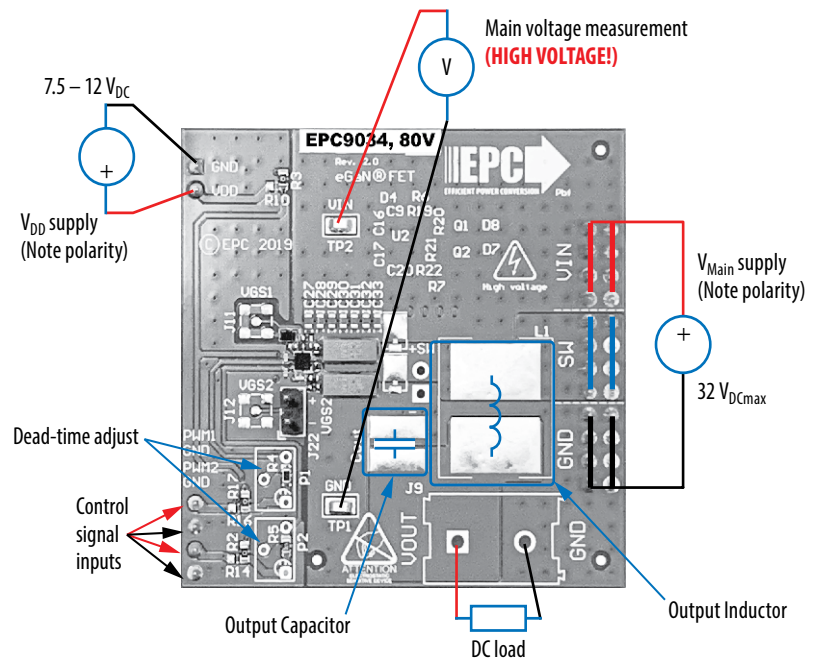
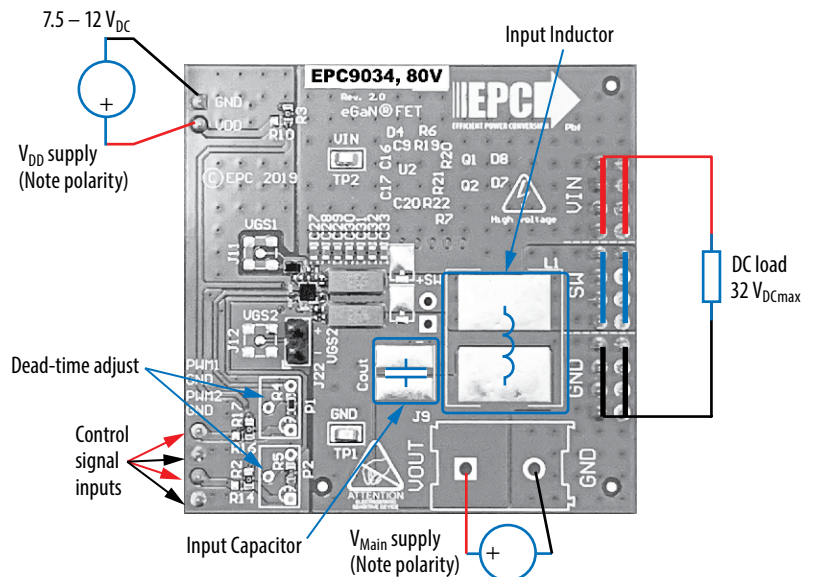

Figure 2: Buck configuration
Figure 3: Boost configuration
The half bridge development board EPC9034 is easy to set up as buck or boost converter. Refer to figure 2 for buck converter configuration and measurement setup, and figure 3 for boost converter setup, and follow the procedure below:
2. With power off, connect the switch node (SW) of the half bridge to your circuit as required (half bridge configuration). Or use the provided pads for inductor (L_1) and output capacitors (C_{out}), as shown in figure 2 with a DC load connected across V_{OUT} and GND.
1. The inductor (L_1) and input capacitors (labeled as C_{out}) can either be soldered onto the board, as shown in figure 3, or provided off board. Anti-parallel diodes can also be installed using the additional pads on the right side of the EPC2021 FETs.